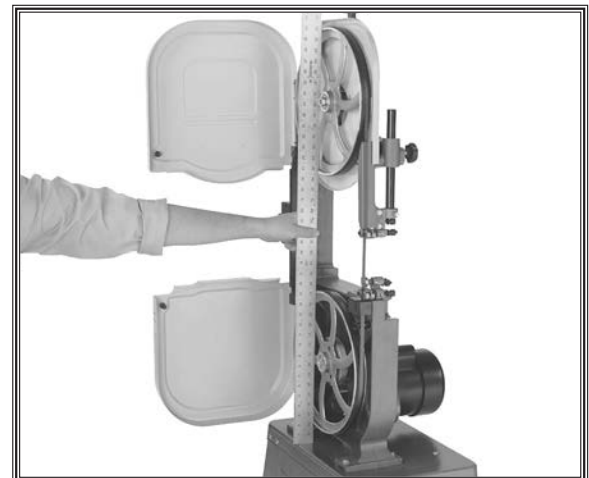

Figure 61. Checking wheel alignment with a straightedge.
3. With the blade installed and properly tensioned, hold a straightedge close to the center of both wheels. Make sure the straightedge fully extends across the wheels, as shown in **Figure 61** on the previous page.